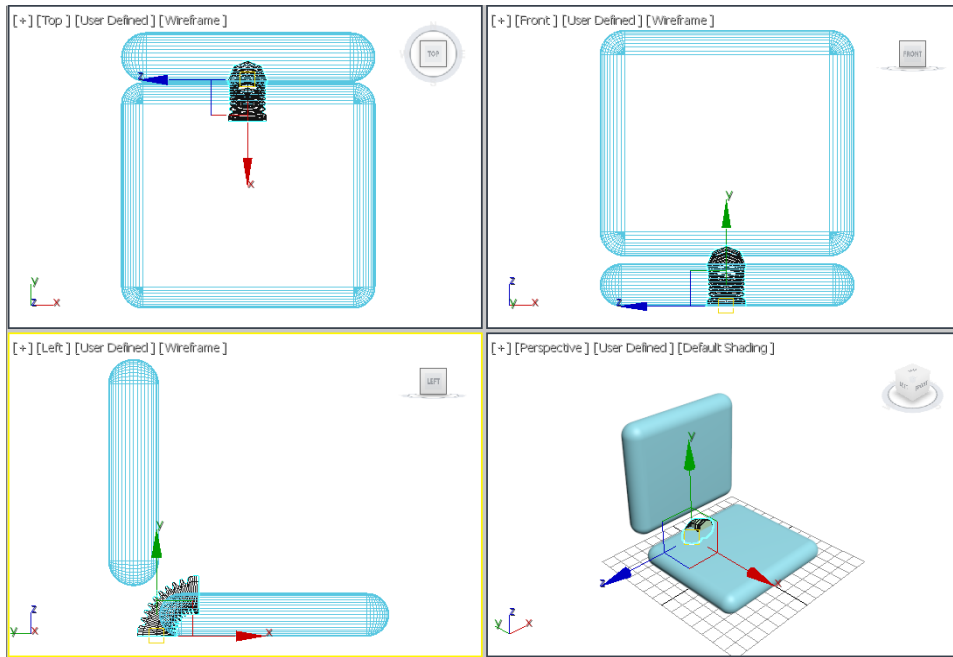

Figure 3-32 The spring support geometry after applying the **Bend** modifier
7. After entering the values, *spring support* is displayed, as shown in Figure 3-32.